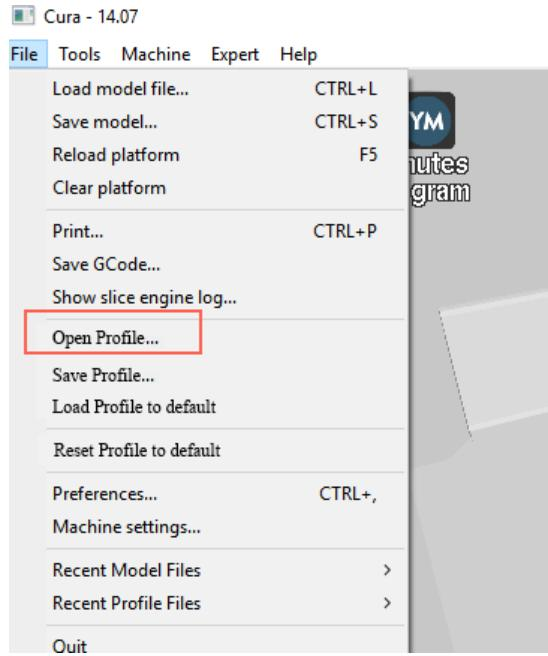

Figure 5.147 Import slice parameters
3. Set slice parameters, and select **File > Open Profile** to import these parameters, as shown in Figure 5.147.